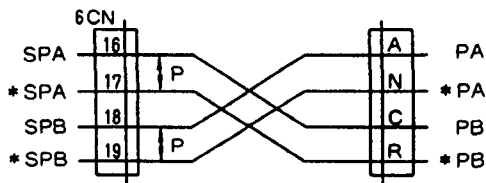

Fig. 5.16 Signal Lead Change
- During normal rotation of spindle, if the encoder rotates clockwise as viewed from the spindle, interchange A - and B - phases as shown in Fig. 5.16.